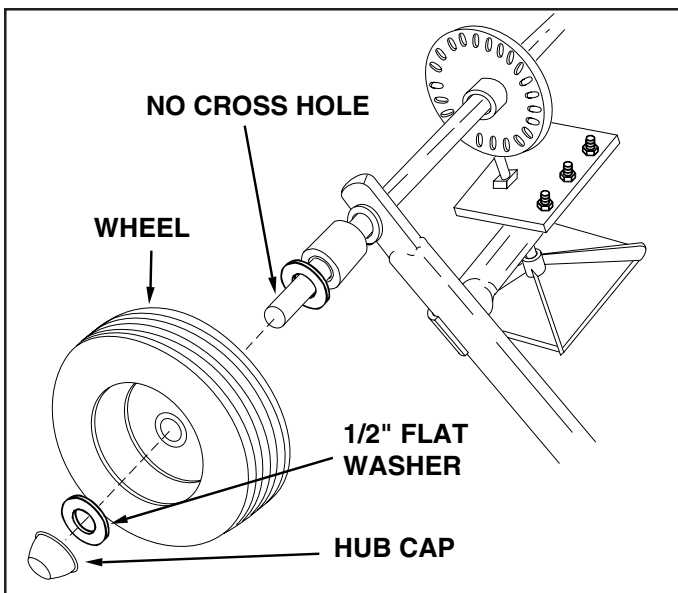

FIGURE 4
3. Place a wheel onto the end of the axle that has no cross hole. The long end of the hub goes to the inside. See figure 4.
4. Place a 1/2" flat washer onto the axle and then lightly tap a hub cap onto the axle until it is snug against the washer and wheel hub. See figure 4.